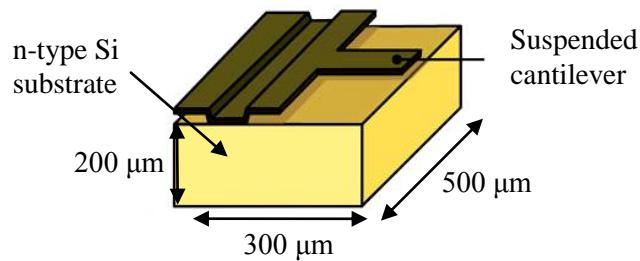

Figure Q6[c]
- [c] Figure Q6[c] shows a suspended cantilever structure on top an n-type Si substrate. The structure was constructed by surface micromachining. Describe the prior machining steps before this structure is produced.